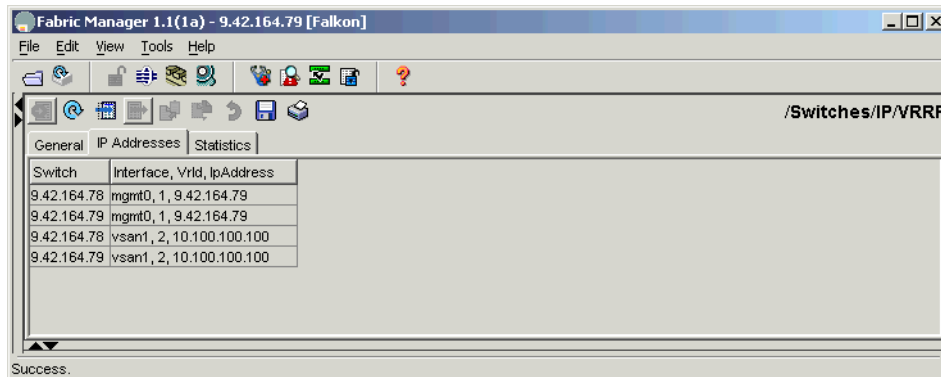

Figure 2-139 List of defined IP addresses for VRRP
14. You should see a list of the IP addresses of the VRRP groups you defined as shown in Figure 2-139.